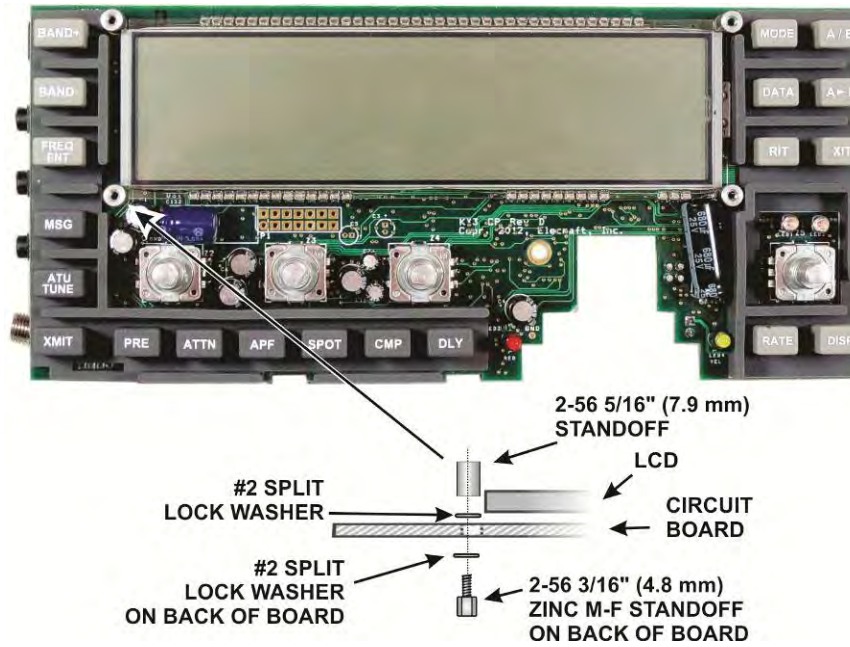

Figure 10. Installing CP Board Standoff Hardware - Part 2.
- Install the standoff on the CP board as shown in Figure 10. Note that a M-F standoff is used instead of a screw on the back of the board.